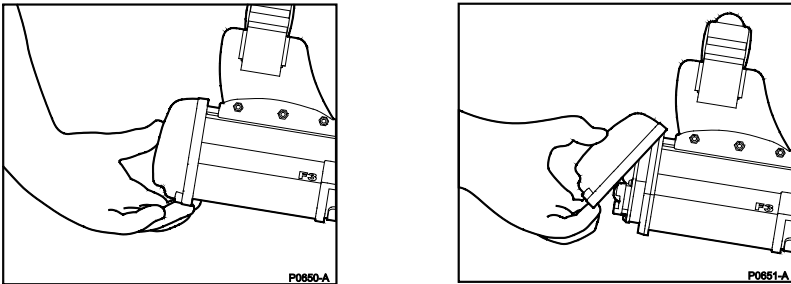

Figure 11: Removing a Sensitivity Endcap
- c. Gently push inwards with the thumb and simultaneously pull the base of the Endcap away from the Electronics Pack (Figure 11).